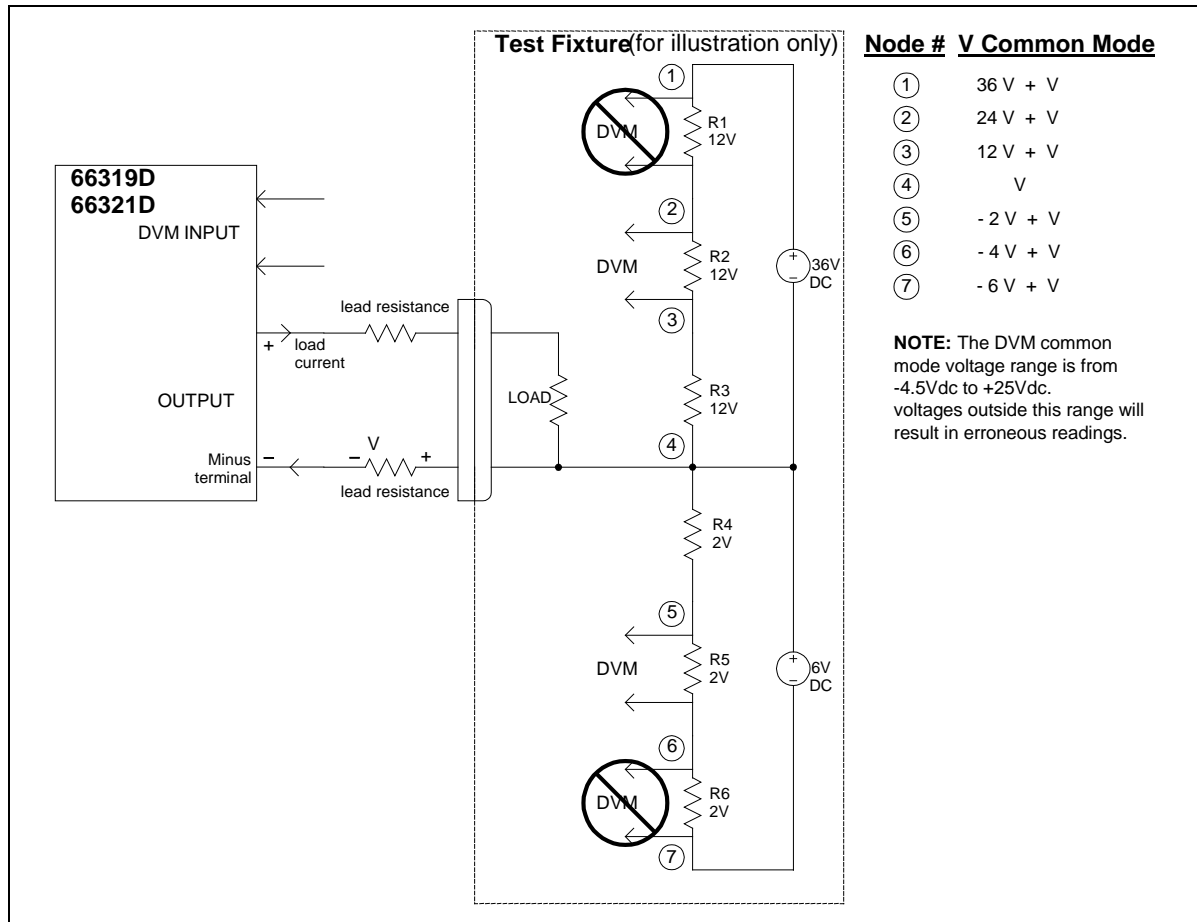

Figure 3-7. Measuring Circuits Not Powered by the Main Output
Because the measurement circuits of the DVM are internally referenced to the minus terminal of the main output, you must observe the following restrictions in order to guarantee accurate DVM measurements (refer to figure 3-7).
- ◆ You cannot measure voltages greater than $+25\text{ Vdc}$ with respect to the negative terminal of the main output. A situation where this could occur is illustrated by R1 in figure 3-7, which has only a 12 Vdc drop across it but is $36\text{ Vdc} + V_{\text{lead}}$ with respect to the negative terminal of the main output.
- ◆ You cannot measure voltages less than -4.5 Vdc with respect to the negative terminal of the main output. A situation where this could occur is illustrated by R6 in figure 3-7, which has only a -2 Vdc drop across it but is $-6\text{ Vdc} + V_{\text{lead}}$ with respect to the negative terminal of the main output.
- ◆ When calculating the common mode voltage between the point that you wish to measure and the negative terminal of the main output, you must also include any voltage drop in the negative load lead. For example, in figure 3-7, if the voltage drop in the negative load lead is 2 V , you would not be able to correctly measure the 12 Vdc drop across R2. This is because when the voltage drop in the load lead is added to the voltage drops across R2 and R3, the resultant voltage is 26 Vdc , which exceeds the $+25\text{ Vdc}$ common mode rating of the DVM.